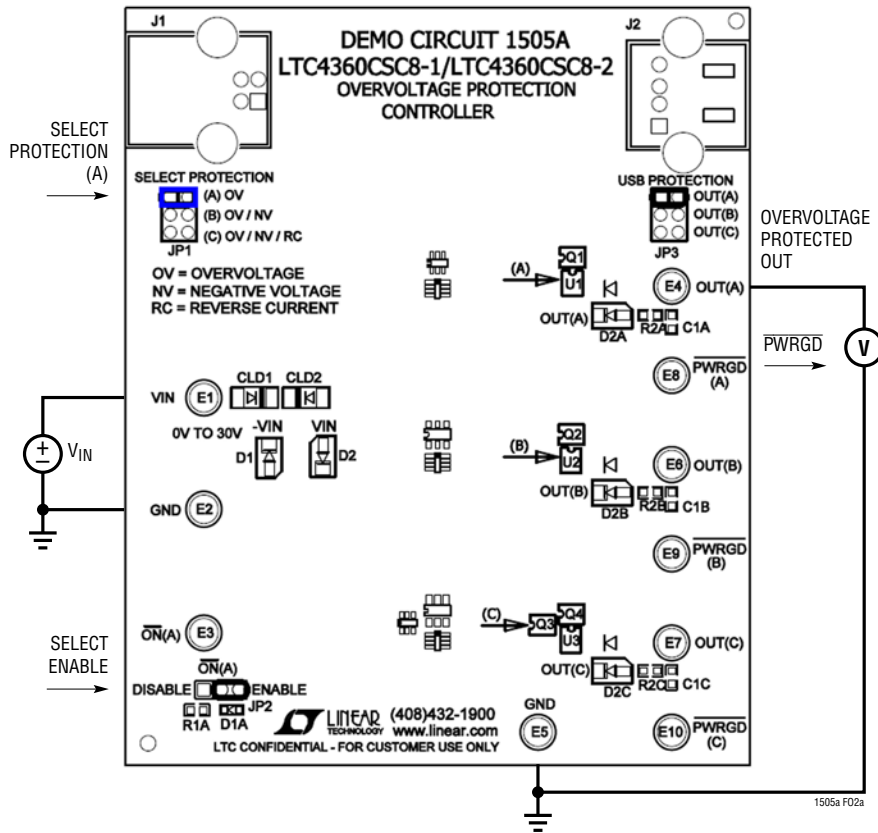

Figure 2a. DC1505A Protection (A) Setup for Overvoltage
- a. For overvoltage protection select “(A) OV” and connect to OUT(A) (Figure 2a).